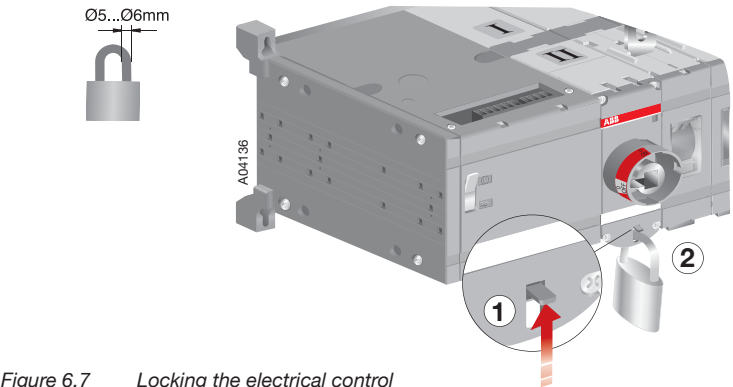

Figure 6.7 Locking the electrical control
2. Place the padlock under the latch, see Figure 6.7.